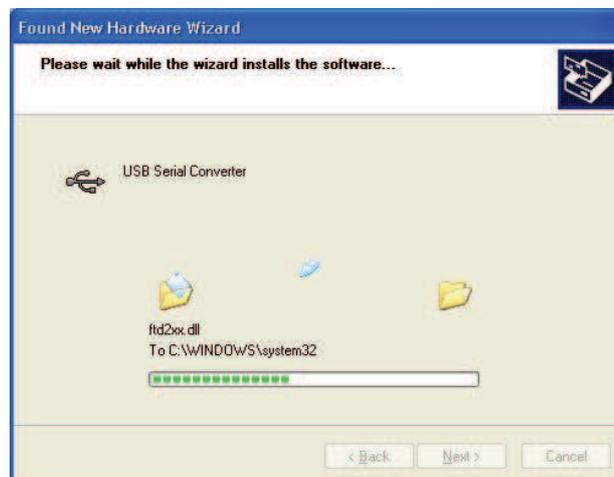

Figure 2.5
- The screen shown in Figure 2.5 will be displayed as Windows XP copies the required driver files.